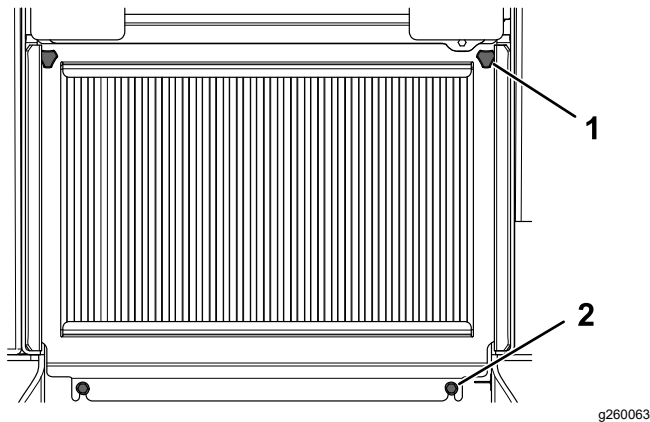

Figure 36
2. Loosen the 2 bolts securing the bottom of the screen (Figure 36).
3. Loosen the 2 knobs on the screen (Figure 36).
1. Knob (2)
2. Bolt (2)
4. Lift the screen and remove it (Figure 36).